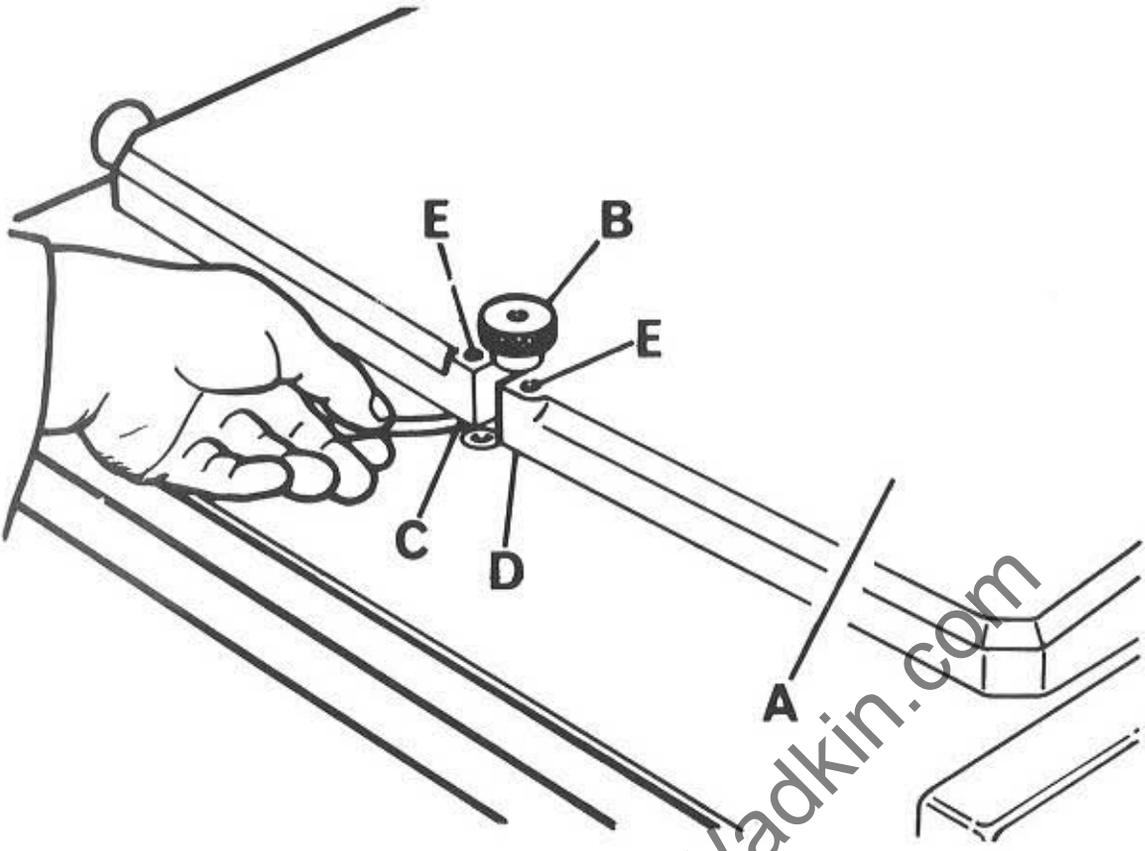

FIG. 6
9. With the 2 pieces of pre-planed wood still in machine, ensure that top cover "A" in FIG. 6 is locked in position by knurled knob "B".
10. Check with feeler gauge to ensure a 0.015" gap at points "C" & "D" in FIG.6. This clearance allows the pressure bar correct lift.
11. If clearance is incorrect, adjust the 2 socket head grub screws "E" in FIG.6 until correct clearance is attained.